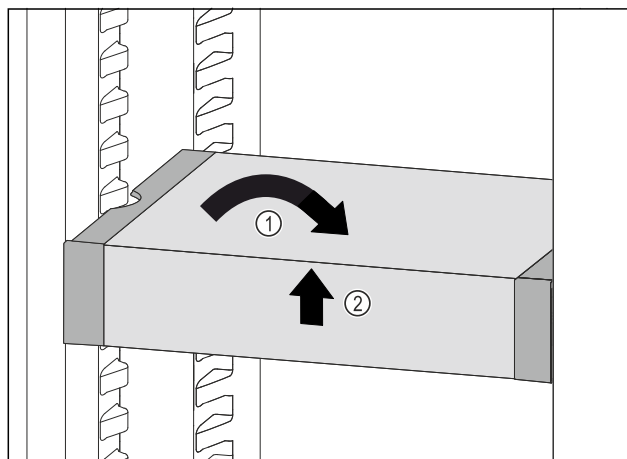

Fig. 127
- Set VarioSafe straight. Fig. 127 (1)
- Lift VarioSafe at the front. Fig. 127 (2)